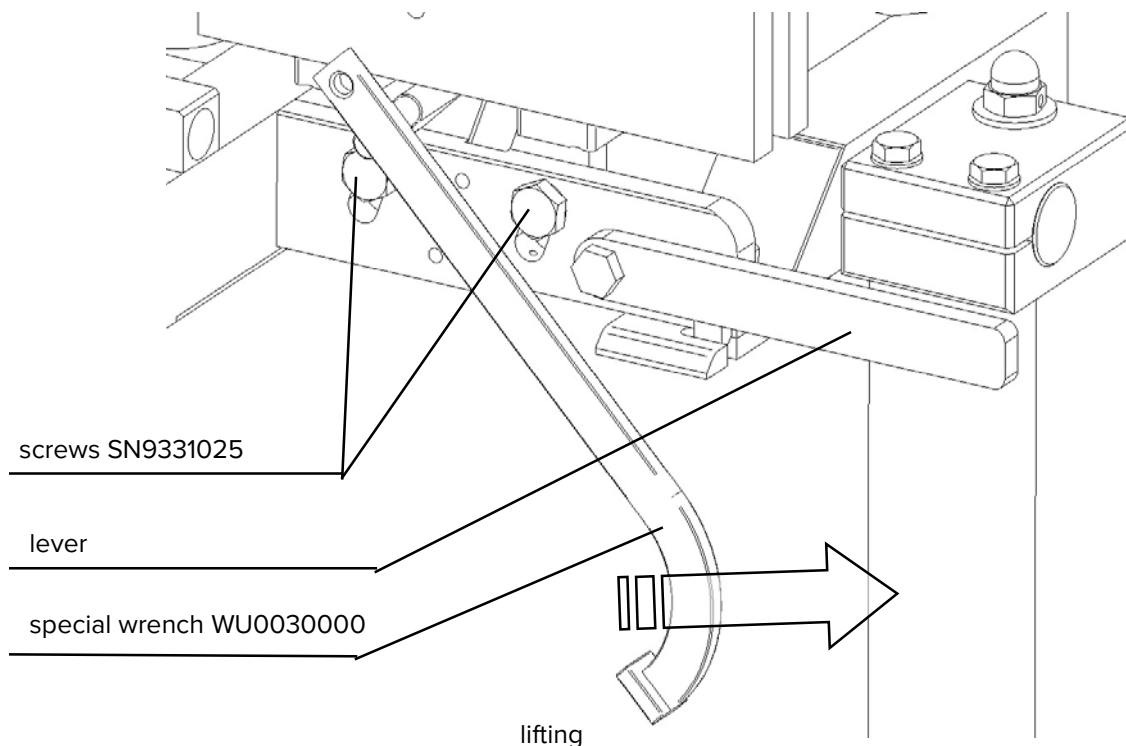

Fig.6
1. Using a lock lever (see fig. 6) incline the clipper throat left.